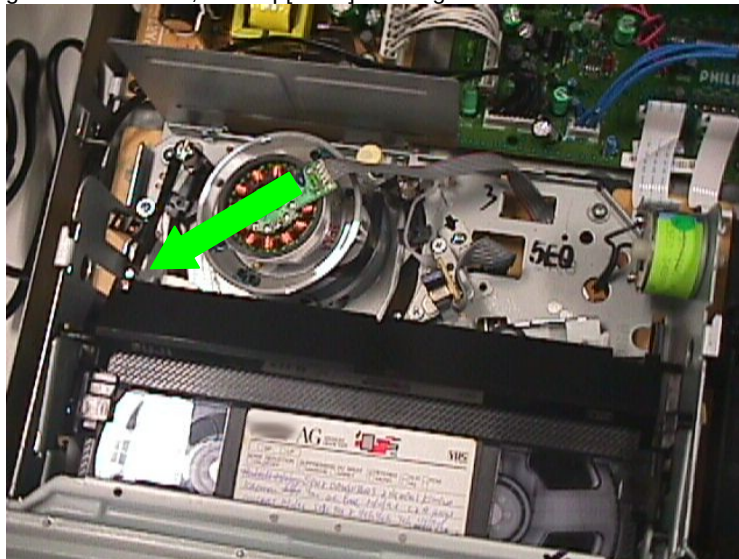

Figure 2:Clip 587 released
2. Upon hearing the click sound , the Clip[B587] holding the VCR will be released as shown in figure 2.